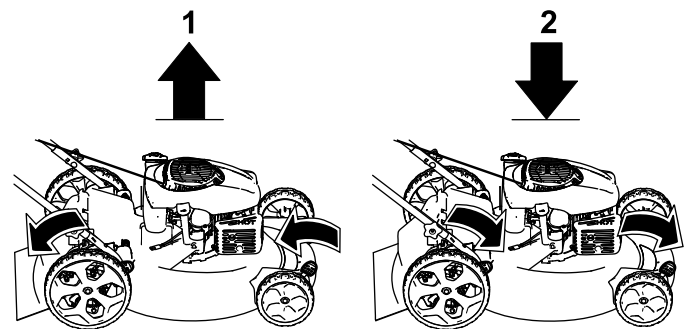

Figure 10
**Note:** To raise or lower the machine, move the cutting-height levers as shown in Figure 10.